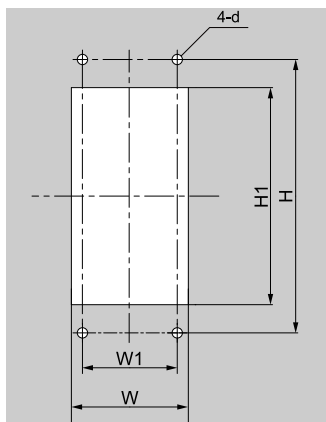

Figure 5.21 Internal/Flush-Mount Enclosure Panel Cut-Out Dimensions
1. Use the dimensions in Table 5.5 and Figure 5.21 to cut an opening in the control panel for the keypad.